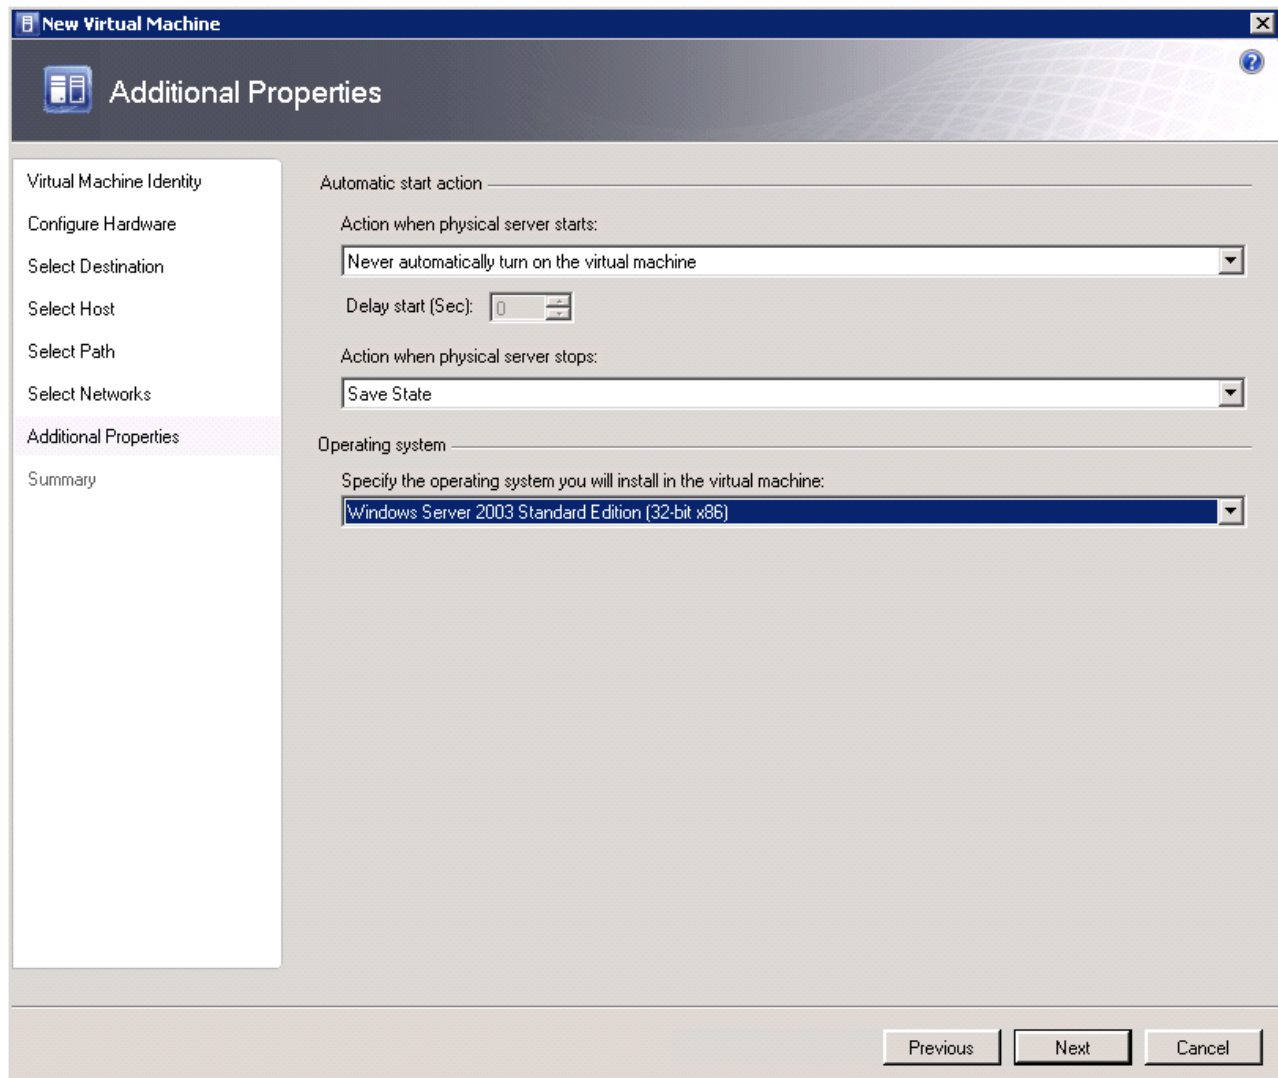

Figure 3-69 SCVMM New Virtual Machine: Additional Properties
8. In the Additional Properties window, select any additional properties for the new virtual machine, as shown in Figure 3-69. Click **Next**.